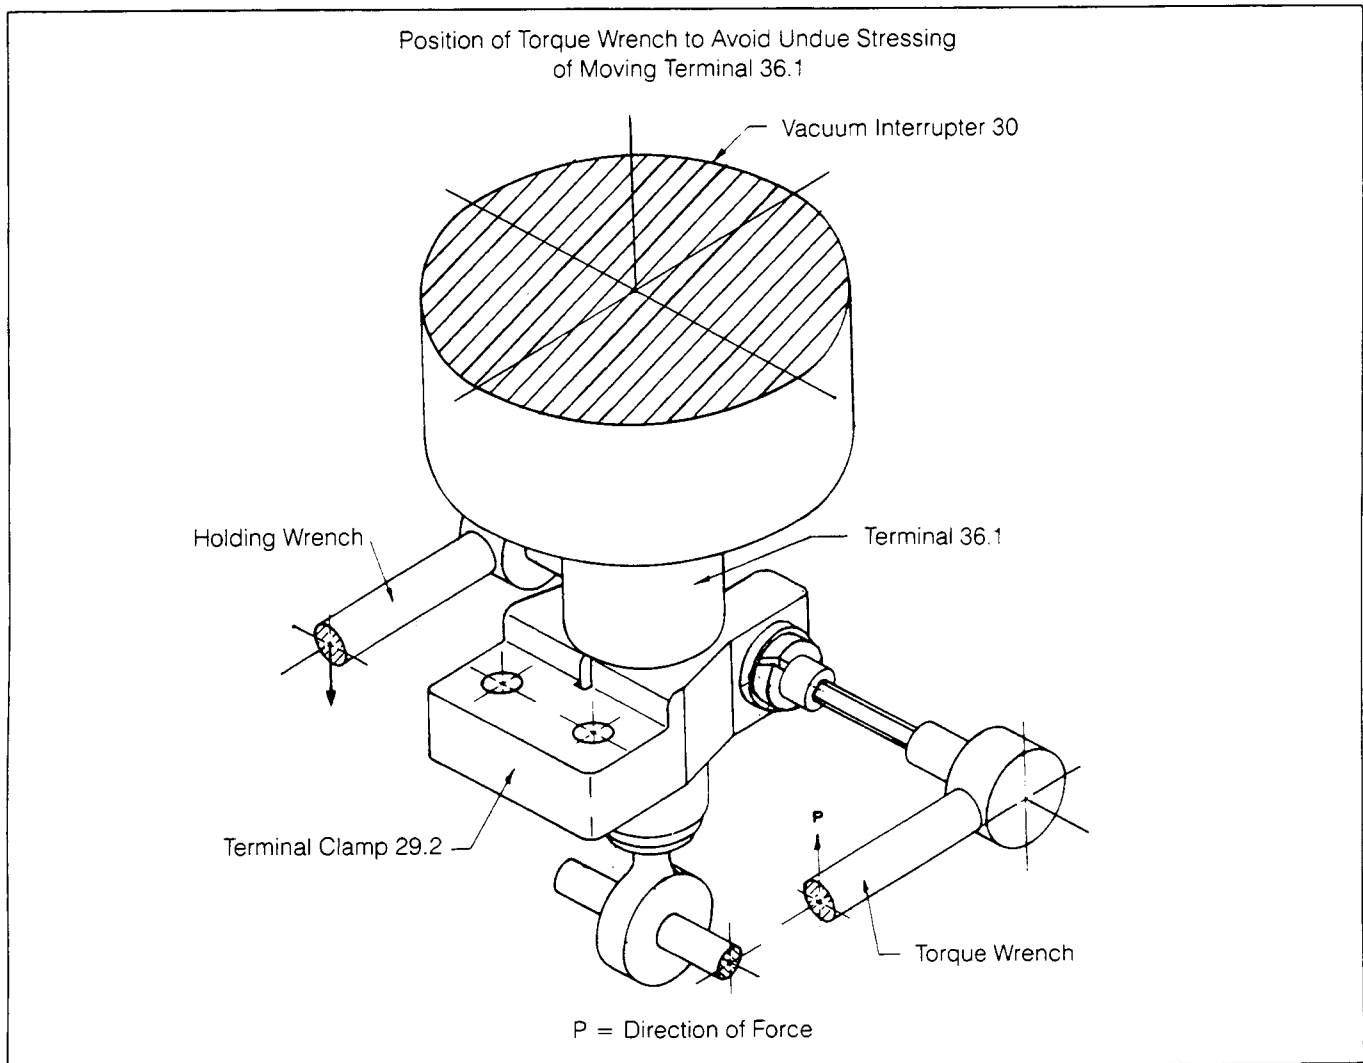

Figure 23
- 1.2 Loosen the lateral bolt(s) on terminal clamp, 29.2. Refer to figure 23 and employ the illustrated procedure to loosen clamp hardware. (8mm hex allen and 17mm socket)
- 2.7 Elevate terminal clamp, 29.2, against the locking ring on the movable terminal of the vacuum tube, 36.1 and position the interrupter 30, so that its groove faces the connecting surface of flexible strap 29.1. Refer to Figure 23 and employ technique illustrated to fasten terminal clamp. Note opposing wrenches. Tighten the bolt(s) of the terminal clamp to a torque